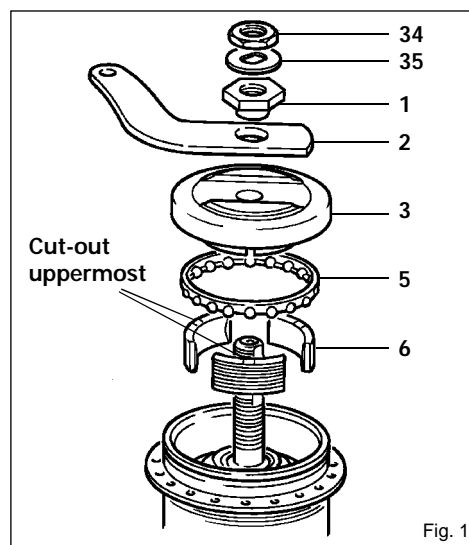

Fig. 1
3. (See Fig.1) Clamp right hand end of axle in a vice and unscrew the left hand cone locknut, spacing washer, and brake arm nut. Remove the brake arm, left hand cone and dust cap assembly, and brake shoe segments. Remove the brake actuator assembly by turning hub-shell clockwise. Remove hub from vice.
6. Clamp right hand end of axle in vice and fit brake actuator assembly to left hand end of axle, turning clockwise to ensure the internal screw threads engage with planet cage. Fit the 3 brake shoe segments such that the cut-outs are uppermost (see Fig. 1), the tag of the brake actuator drag spring lines up with one of the cut-outs, and the three segments are evenly spaced (see Fig. 4). If the brake
7. (See Fig. 1). Fit ball cage assembly, with balls facing down. Fit left hand cone, lining up the slot on the underside of the cone (See fig. 5) with the brake actuator drag spring tag. Slide over the axle to engage tag, checking the cone is correctly seated by rotating slightly ensuring that it engages with the brake shoe segments (see Fig. 5). Fit brake arm, spigotted brake arm locknut, washer and locknut. Adjust hub as described in Part 2. Remove hub from vice.